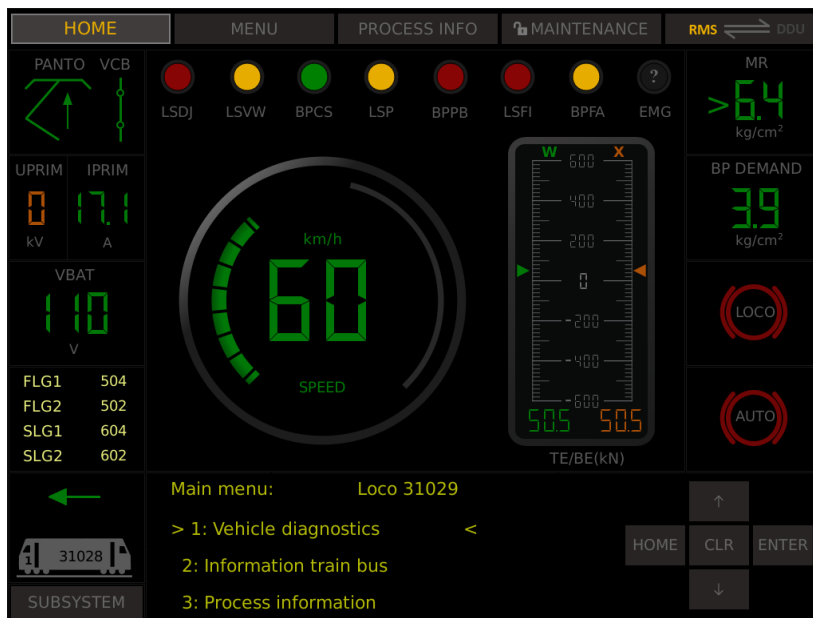

FIG1: Screen 1: Default RMS DDU screen
***Note : The Display is configurable. The Default screen will be as shown in Fig1(without pixy screen). PIXY portion disabled in the RMS Display as there is no RS422 connection between and RMS DDU and VCU.**